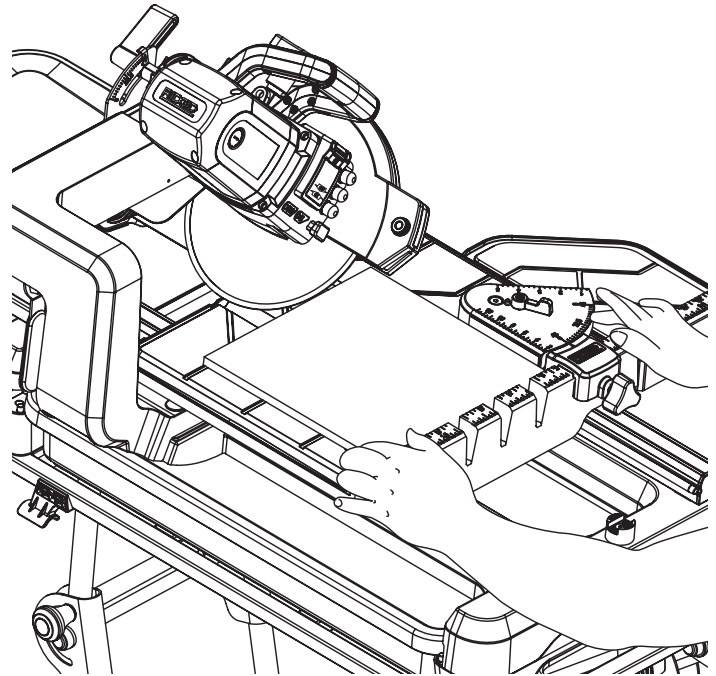

Fig. 46
7. Ease the work table towards the blade to slowly feed the tile into the blade. Continue pushing until the blade cuts completely through the tile (Fig. 46).